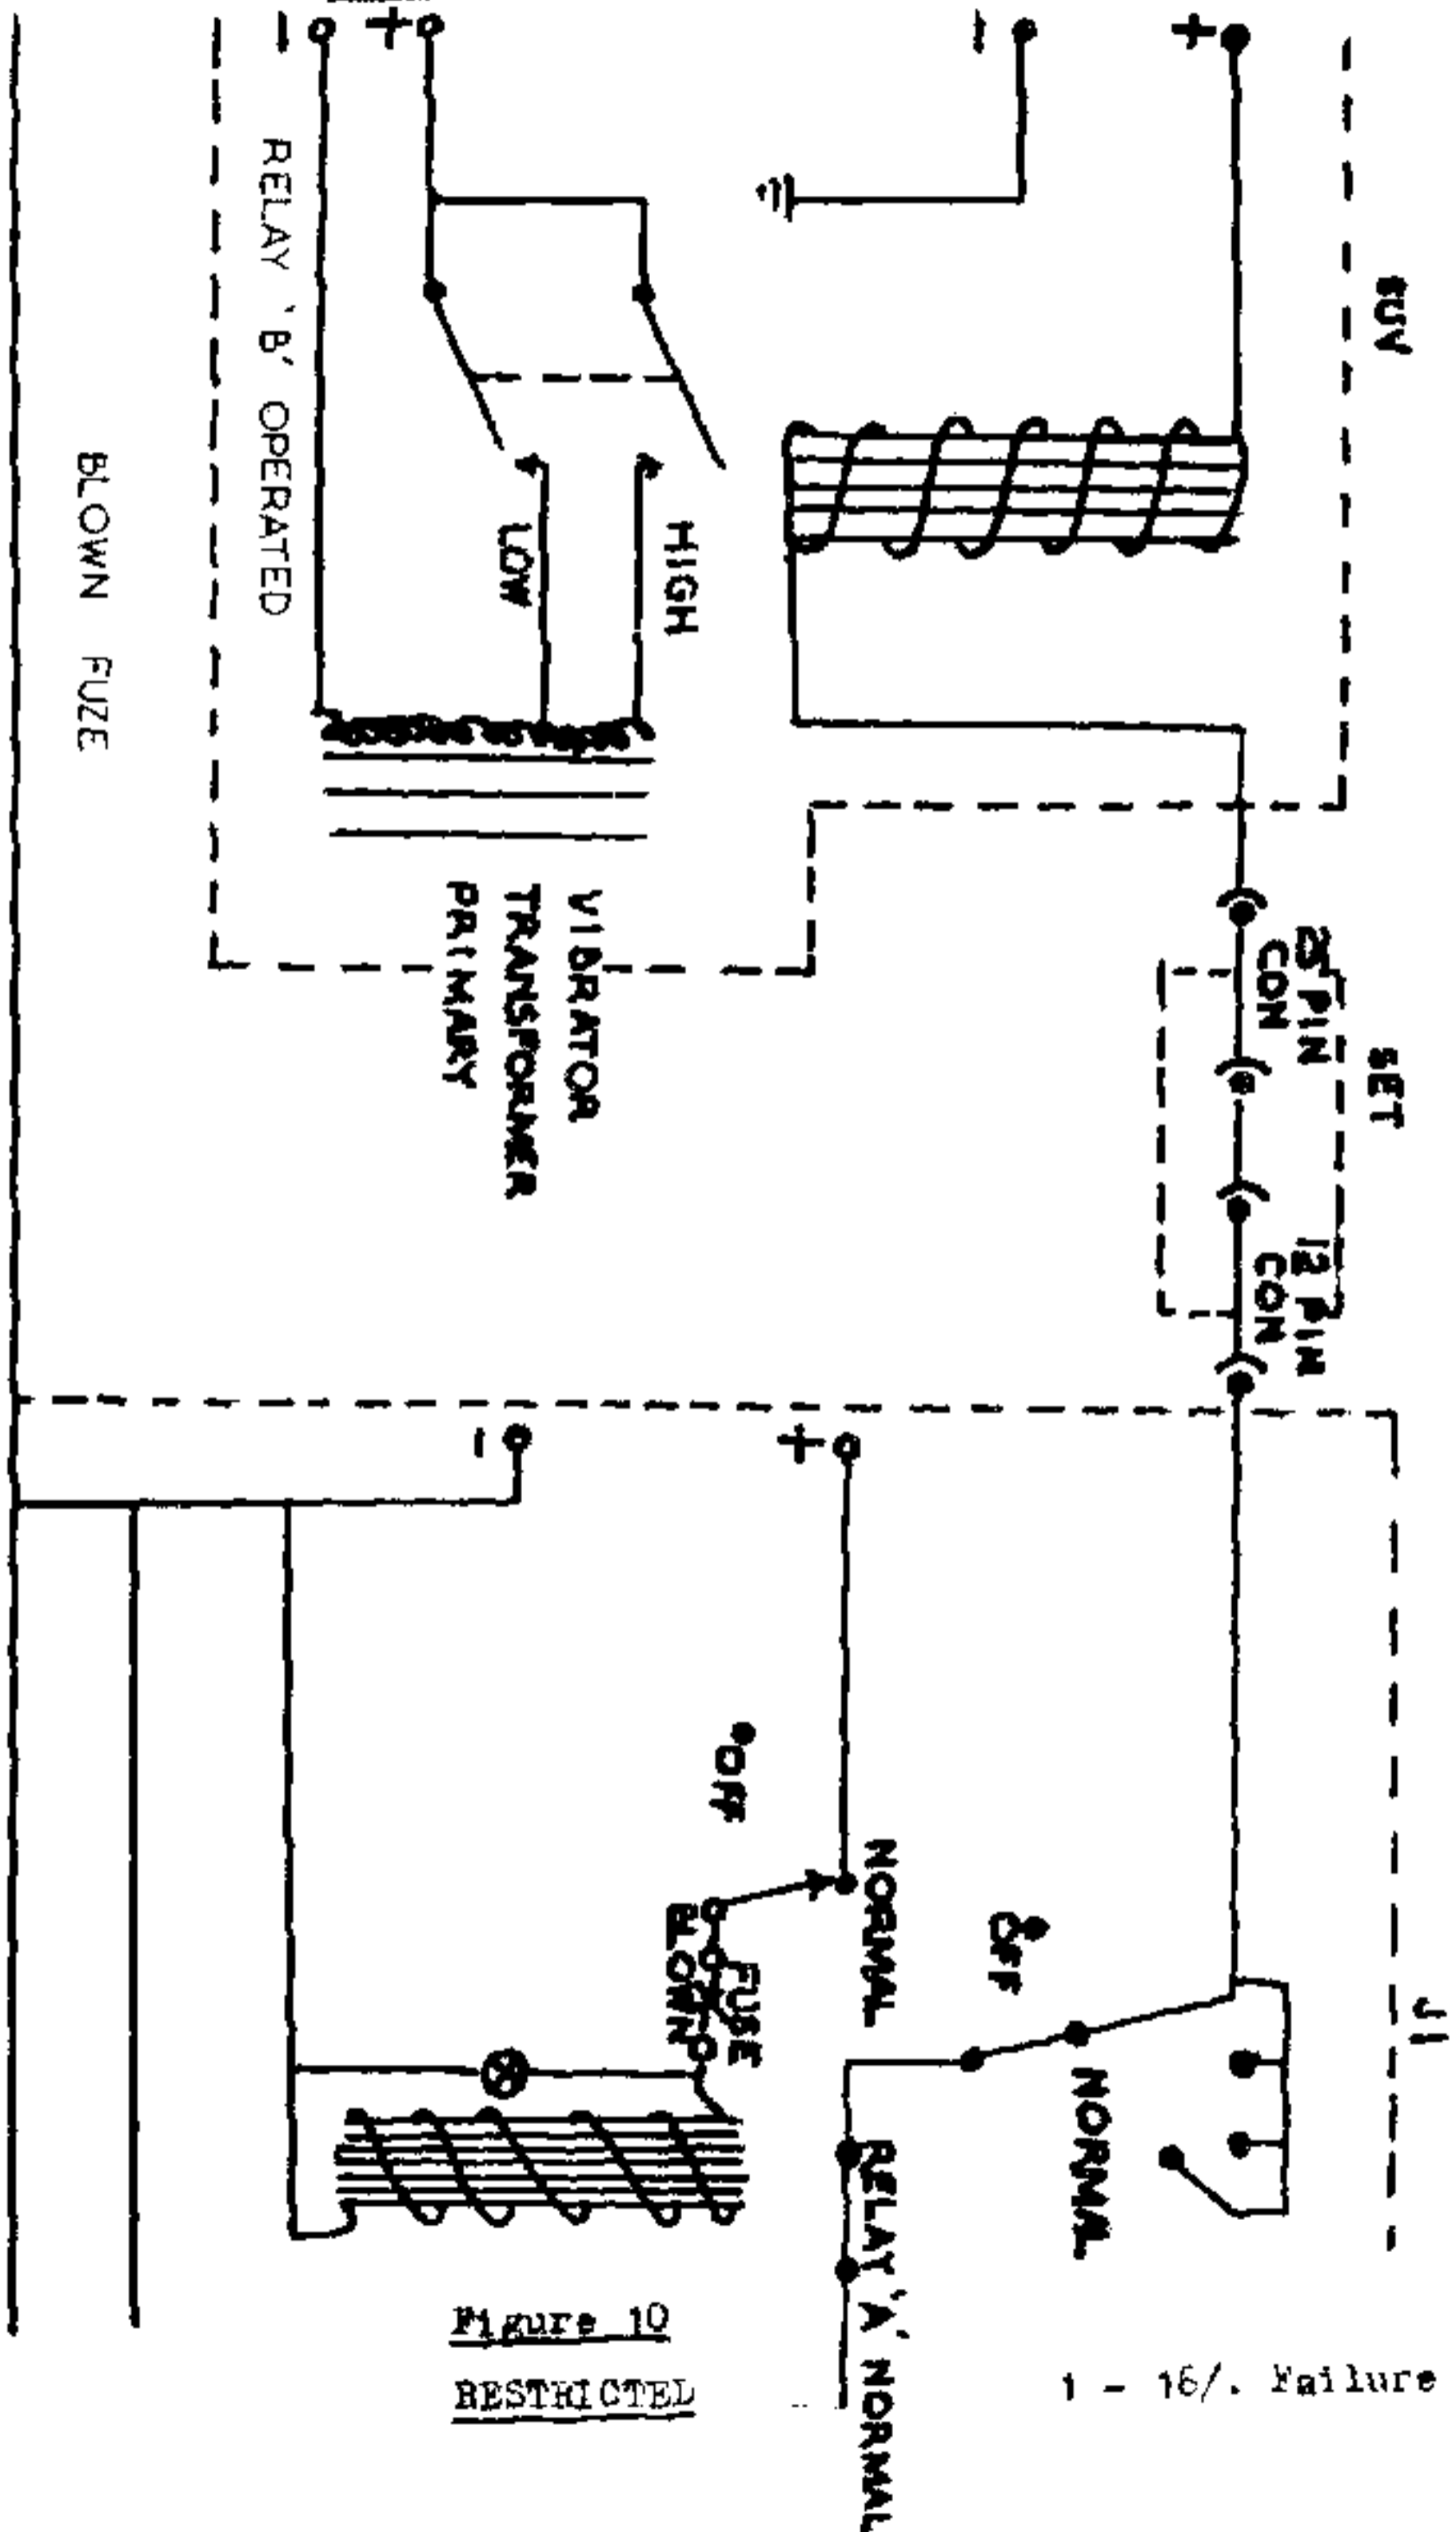

Figure 10
- b. Blown 2 Ampere Fuse in Junction Box. Realizing that when the battery voltage is in the high range, the electromagnet (EM2) circuit "H" is in use and having the 2 Ampere fuse also in the circuit, a break in this circuit caused by a blown fuse will result in the relay "A" returning to its normal (Low Tap) position. This now allows relay "B" to be activated (Low Tap) irrespective of the input voltage. This situation could cause serious damage to the set. (See Figure 10).